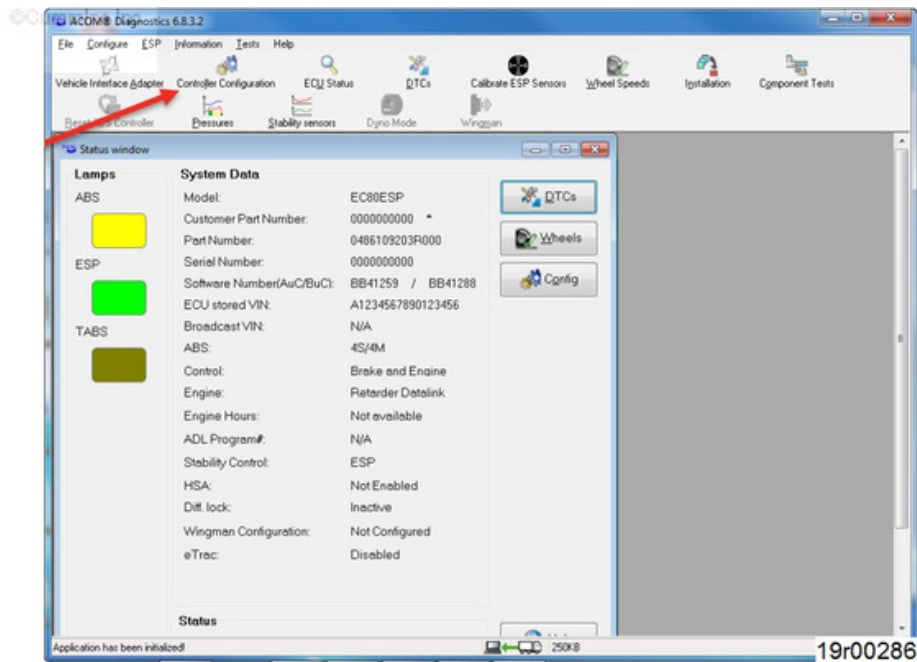

Figure 1, ACom® Controller Configuration
2. Connect to ACom® and select Controller Configuration. See Figure 1 below.